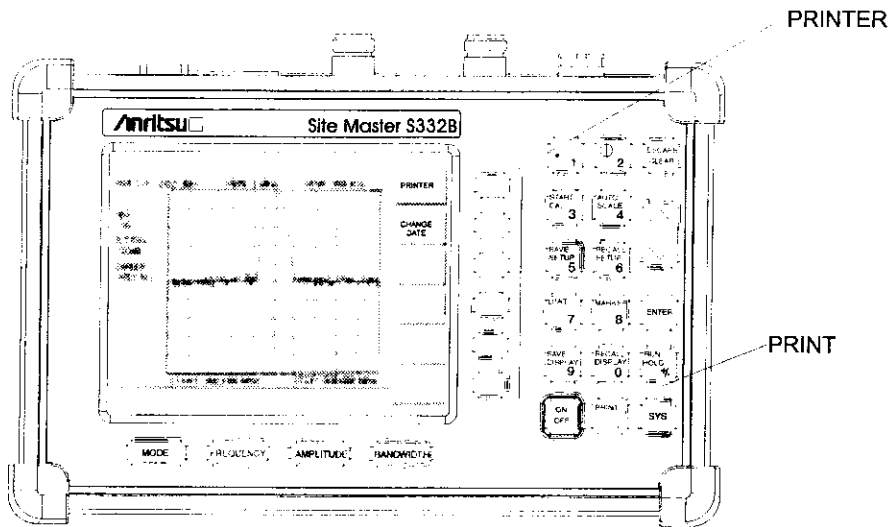

Figure 3-13. **PRINTER** Soft Key and **PRINT** Key
**Step 5.** Press the **PRINT** key. (Figure 3-13).